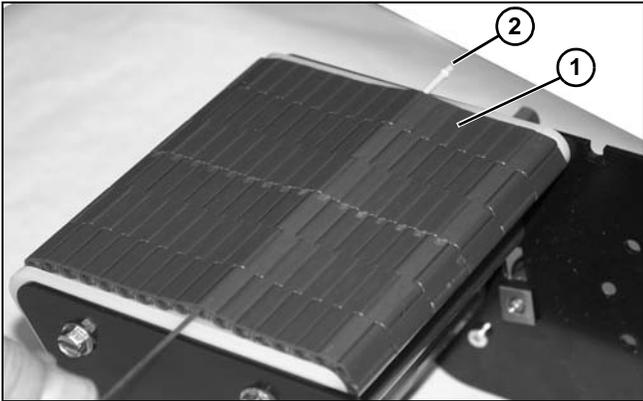

Figure 122
14. Lift slightly on belt (Figure 122, item 1) and push pin (Figure 122, item 2) out of belt.